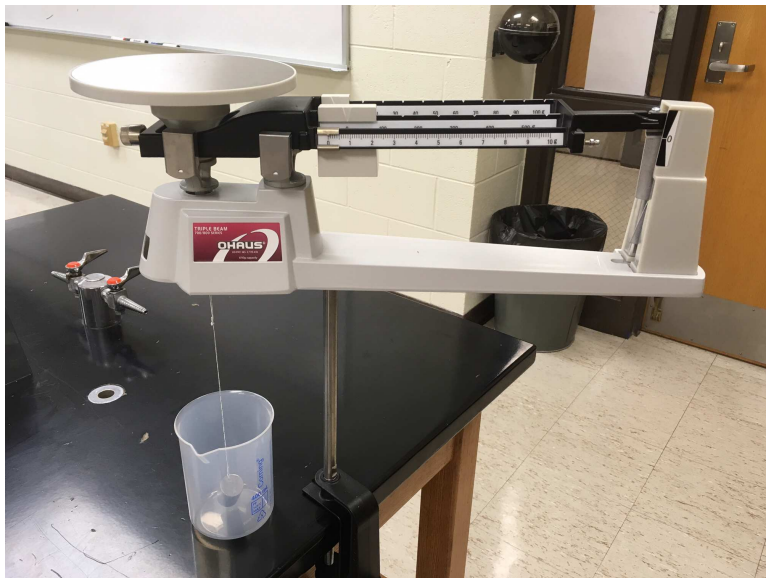

Figure 5: Placing the unknown masses in the fluid in the 400 mL plastic beaker.
3. Now fill the 400 ml plastic beaker with approximately 300 ml of water. Place the suspended mass in the water until it is completely submerged and record the measured mass of the metal now immersed in "water". (See Figure 5 on the next page.)